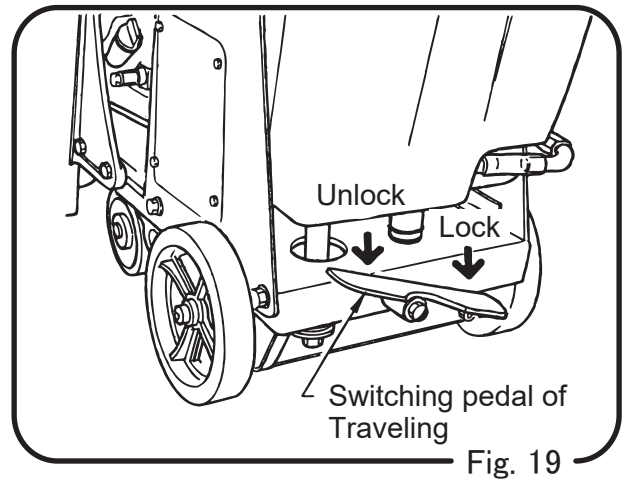

Fig. 19
- 8.2.5. To travel, switch the drive shaft by means of switching pedal and use traveling lever to proceed with cutting. (218). (Fig. 19)